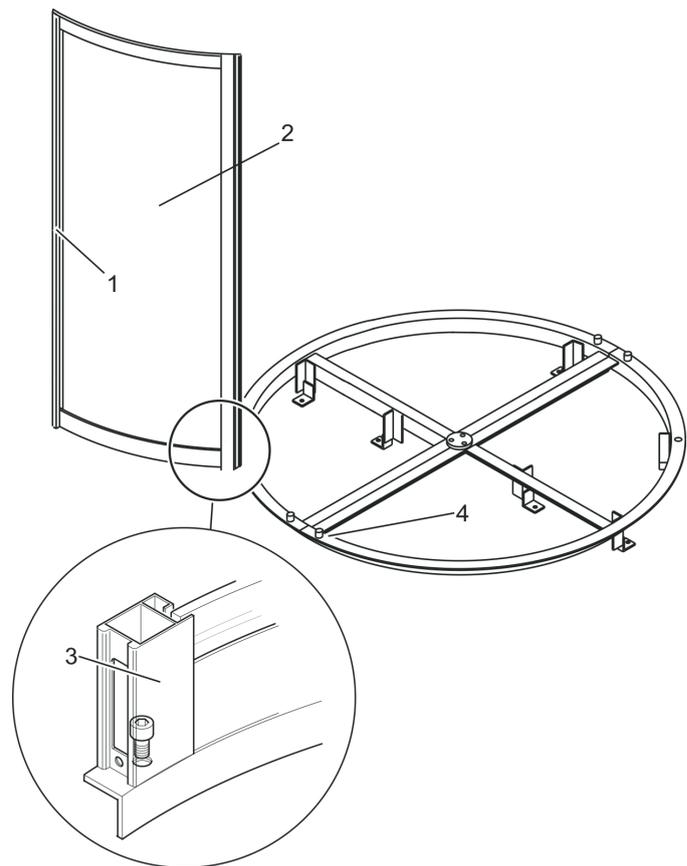

Fig. 38 Assembling the drum wall segments
Note the arrangement of the segments (Fig. 38/1) when mounting the drum wall segments.
1. Carefully position drum wall segment (Fig. 38/2) on fixing component (Fig. 38/4).
Align rear recess (Fig. 38/3) of the drum wall segment with hole and tighten hand-tight.
3. Push rubber seal evenly into the groove in the side drum wall (Fig. 38/1). If necessary, make holes in the rubber seal for screw heads.
Align rear recess of the drum wall segment (Fig. 38/3) with hole and tighten hand-tight.